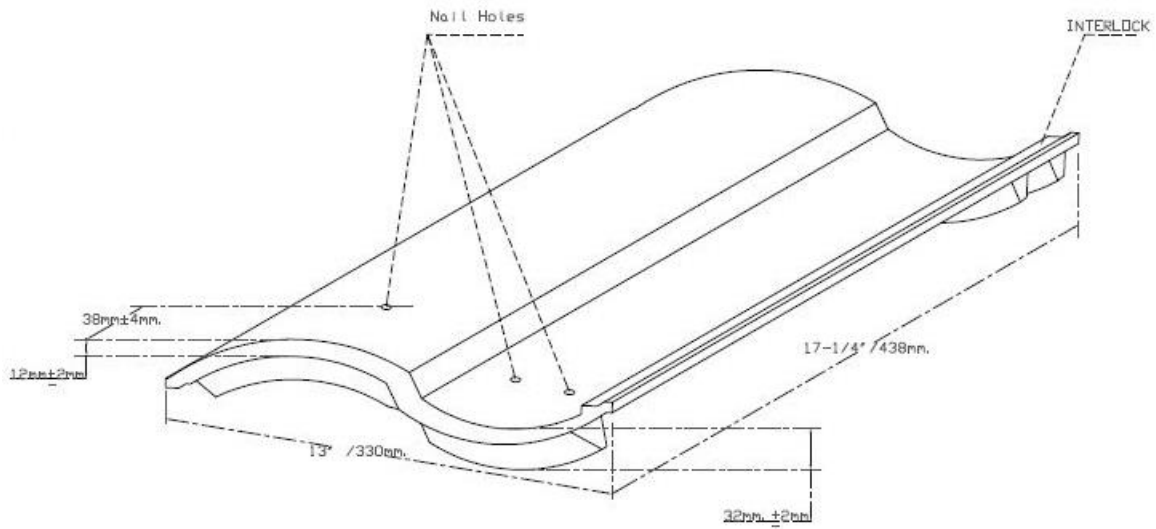

Figure 1
1. Installation using a 1 x 2 wood batten with one (1) corrosion resistant No. 8 x 2-1/2" wood screw in the center nail hole on the tile. The No. 8 wood screw must be long enough to penetrate completely through the batten and completely through the roof sheathing.
2. Installation using a 1 x 2 wood batten with two (2) corrosion resistant No. 8 x 2-1/2" wood screws in the left two nail holes on the tile. The No. 8 wood screw must be long enough to penetrate completely through the batten and completely through the roof sheathing.
3. Installation using a 1 x 2 wood batten with two (2) 10d ring shank nails in the left two nail holes on the tile. The 10d ring shank nail must be long enough to penetrate completely through the batten and completely through the roof sheathing.
**Roof Tile Designations, Profile Classifications, and Dimensions:** Table 1 specifies the roof tile designations, profile classifications, and dimensions for the Crown roof tiles that apply to this product evaluation report. A picture of each roof tile is shown in Figures 1, 2, 3, 4, 5 and 6.
**Roof Tile Fastener Locations:** Figures 1, 2, 3, 4, 5 and 6 show the fastener hole locations for each roof tile.